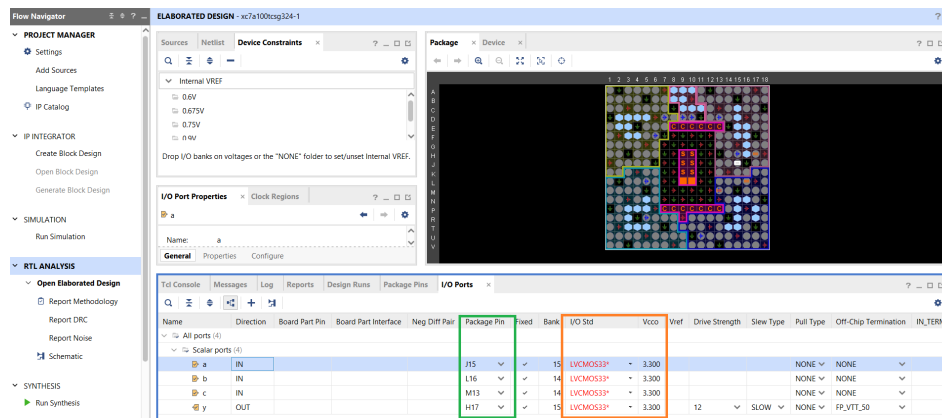

Fig. 3.7: Assigning Package pins on Vivado
1. In the project manager bar, click on *Open Elaborated Design*. A dialog box will appear, click on *Ok*. The I/O ports window will open (Fig. 3.7), (if the I/O ports box does not appear then go to *Layout* and select *I/O planning*). Open the **I/O ports** tab and assign your input output pin connections under **Package Pin** according to Fig. 3.7